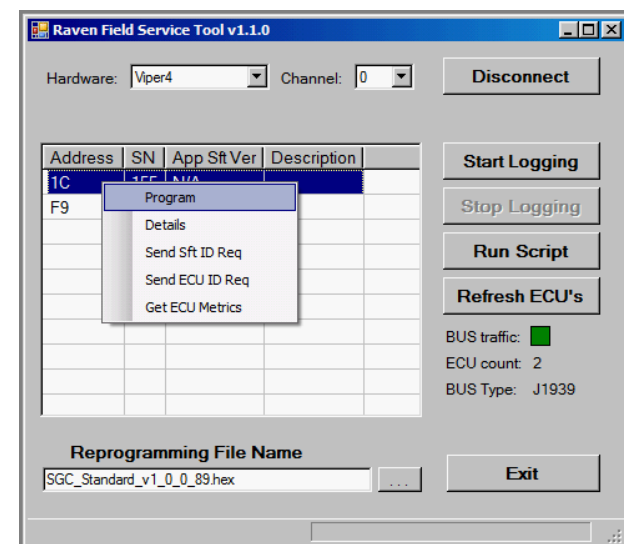

Figure 16 Raven Field Service Tool.
19. Click *Program* (Figure 16). The update will start. Wait until the update is finished.